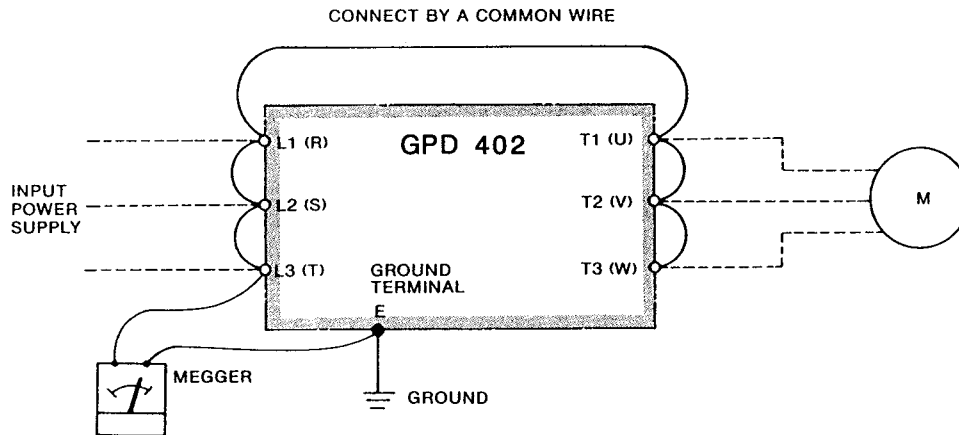

Figure 11. Connections for Megger-Testing
Connect the AC main circuit terminals L1 (R), L2 (S), L3 (T), T1 (U), T2 (V), and T3 (W) by a common wire as shown in Figure 11. After that, measure the insulation resistance between the common wire and ground (terminal E) with a megger. If reading is above 1M ohms, it is considered satisfactory. **NEVER MEASURE THE INSULATION RESISTANCE OF THE CONTROL CIRCUIT.**